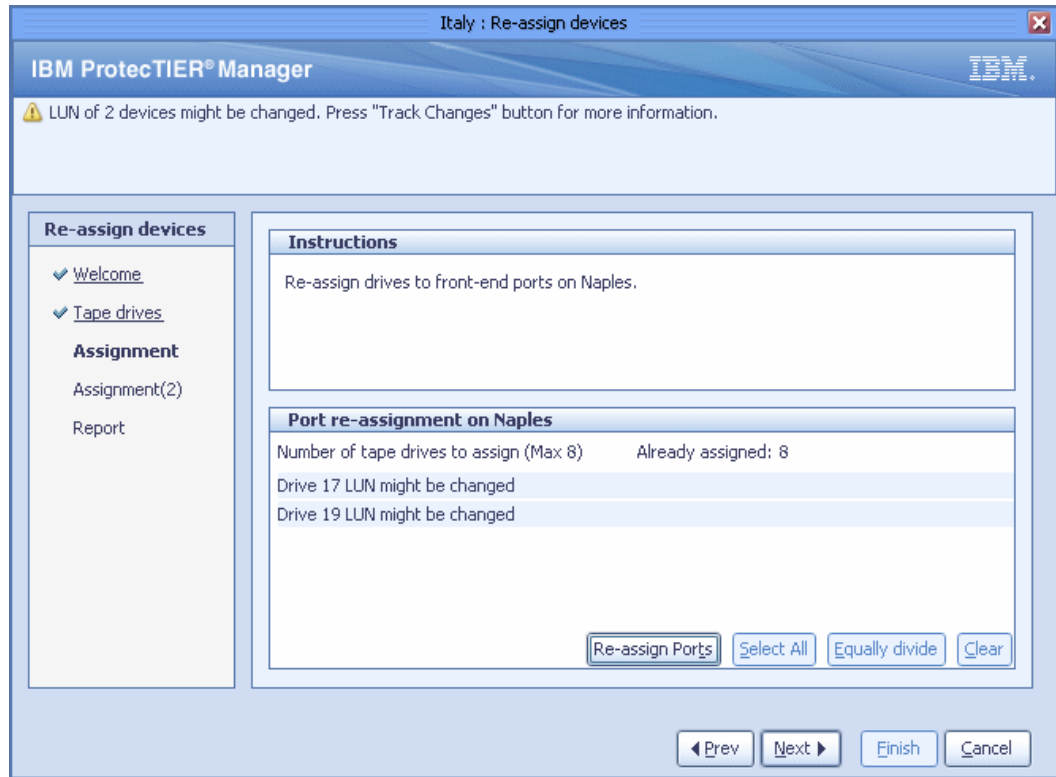

Figure 10-27 Re-assign devices: Track changes window
6. Optionally, click **Track Changes** to display the modifications that the ProtecTIER system might need to make in response to the changes that you defined (Figure 10-27).